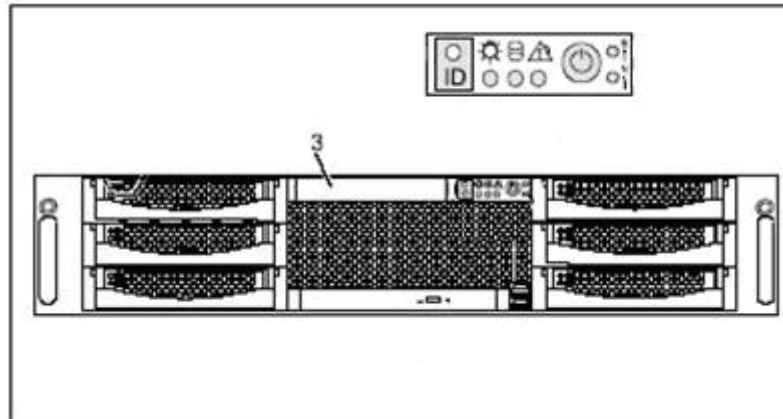

Fig. 21: ISIS front
Lightly pressing against the front (3) (see Fig. 21) move the display outwards slightly. Then carefully pull the display out gradually until you are able to fold it downwards. The angle between the display and ISIS front should be set in such a way that the output can be read without difficulty.